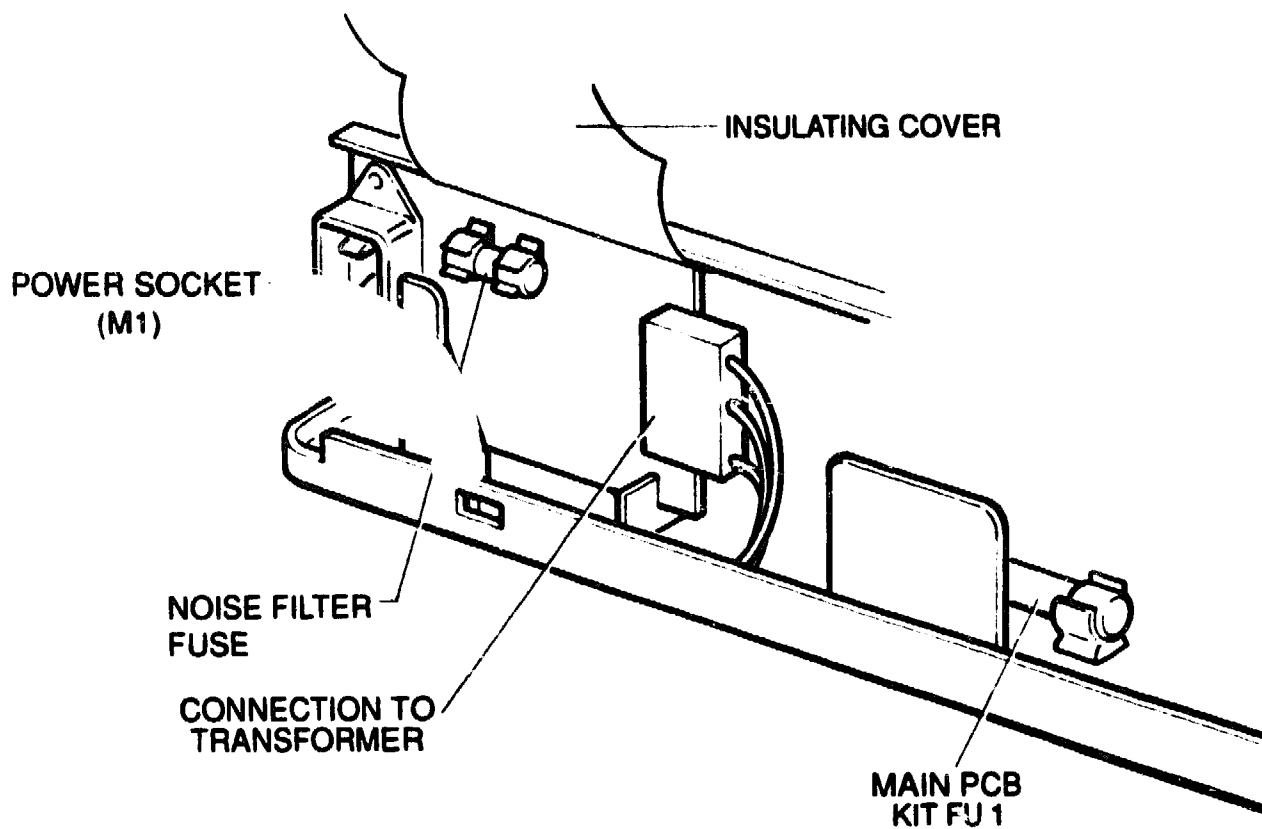

Figure 6-5 Location of Fuses
The fuses of the LA70 are located at the back of the printer and are accessible when the main cover has been removed. Refer to Figure 6-5.
7. You can now remove the appropriate fuse on the Noise Filter PCB by holding the insulating cover (see Figure 6-5).